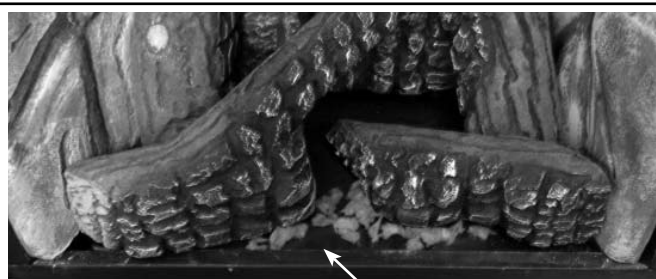

Figure 49 - Ember Placement DO NOT place ember material directly over the ember burner ports.
6. **Ember Placement** - Separate the Embers (rockwool) into pieces about the size of a quarter (see **Figure 43**). Keep the pieces fluffed up, not matted. Distribute these pieces over the surface of the burner, as shown in **Figure 49**. Do not use more than is necessary. **Ensure that the main burner ports remain uncovered by the ember material** (see **Figure 43**).